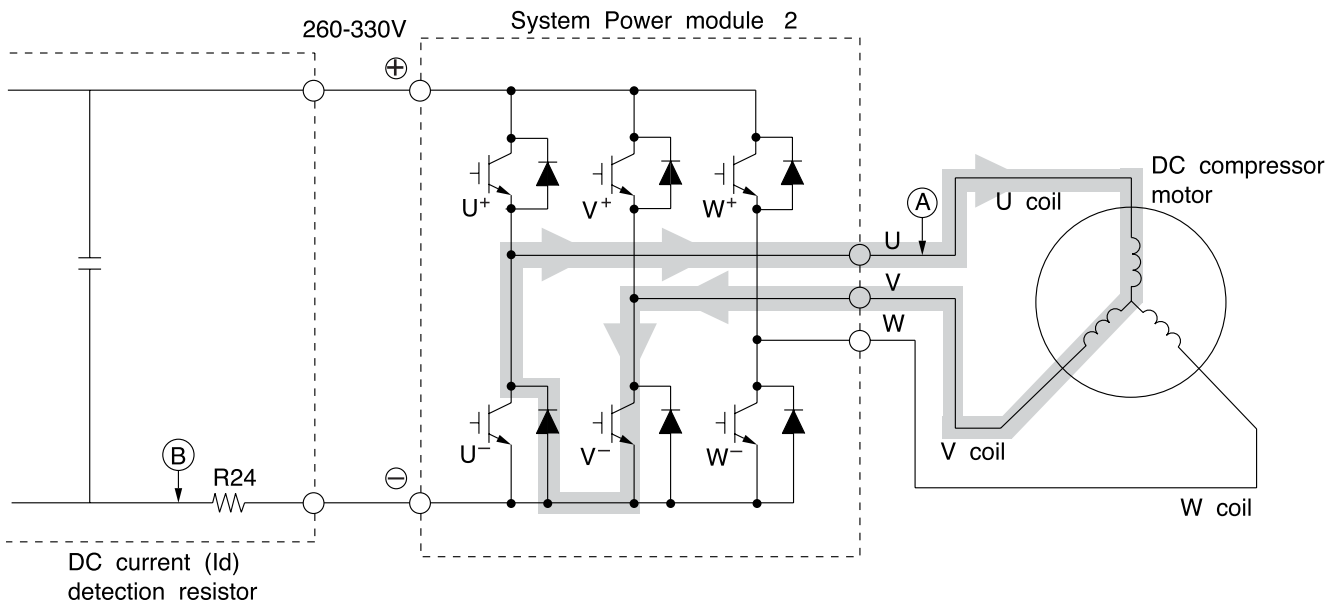

Fig. 3-4 Power module circuit (U+ is ON, V- is ON)
At point F:  $U^+$  is chopped (OFF),  $V^-$  is ON (circuit in Fig. 3-4) ]
(2) When  $U^+$  transistor is OFF: (by inductance of motor coil)  $U \text{ coil} \rightarrow V \text{ coil} \rightarrow V^- \text{ transistor} \rightarrow \text{Return diode} \rightarrow \text{Point ①}$  (Fig. 3-4)